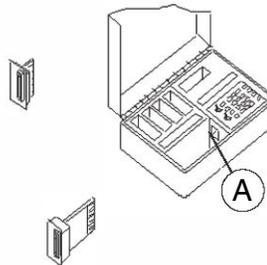

Figure 9: Trip Units with Rating Plugs
- LIGHTLY touch rating plug connector board to metal grounding surface (A, Fig. 9) next to power cord receptacle of test set to discharge any accumulated electrostatic charge.
14. Grasp adapter firmly and touch adapter connector board lightly against metal grounding surface (A, fig. 9) next to power cord receptacle.